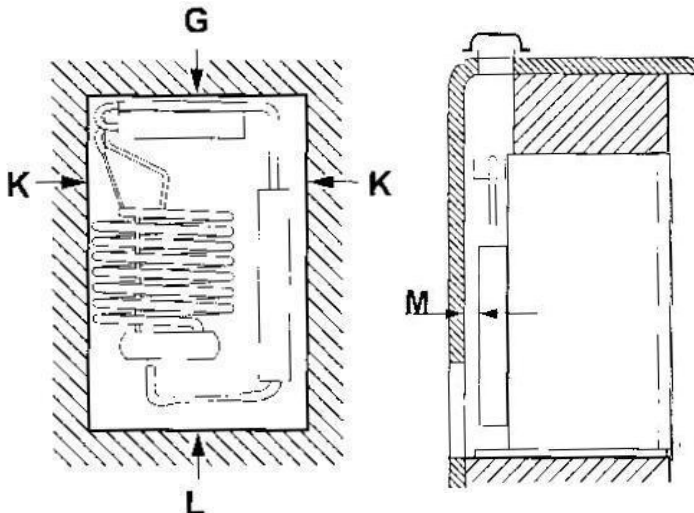

FIG 7
5. The refrigerator is certified to operate in an enclosure with zero clearance to combustible materials refrigerator as illustrated in Fig. 7 for the top (G), sides (K), bottom (L) and back (M) of the refrigerator.